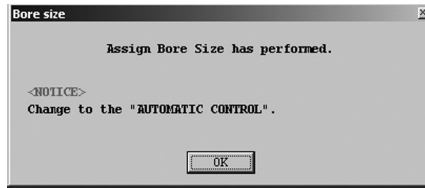

Fig.40
- ⑤ When the previous settings are replaced with the new settings just entered in response to clicking on "OK", a message box as shown in Fig.40 appears. Clicking on "OK" button at this point completes the setup.